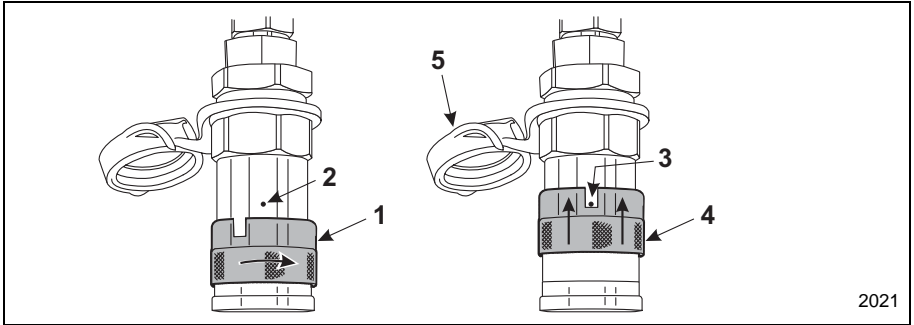

Figure 1–13 Attachment Locks in Unlocked Position
3. Rotate the attachment lock pins to the UNLOCKED position (Item 1, **Figure 1–13**).